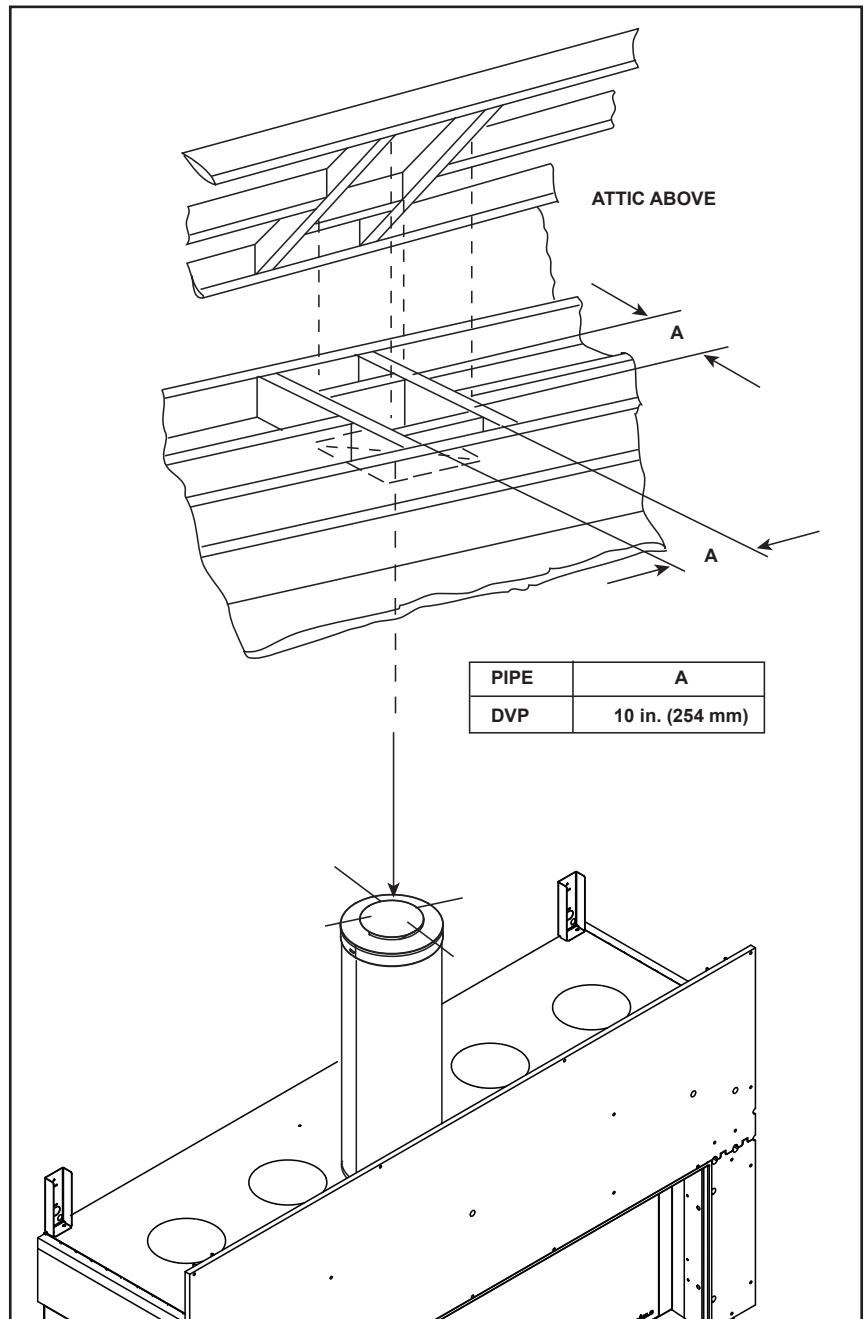

Figure 5.3 Installing Ceiling Firestop
- **DVP pipe only** - Frame an opening 10 in. by 10 in. (254 mm by 254 mm) whenever the vent penetrates a ceiling/floor (see Figure 5.3).